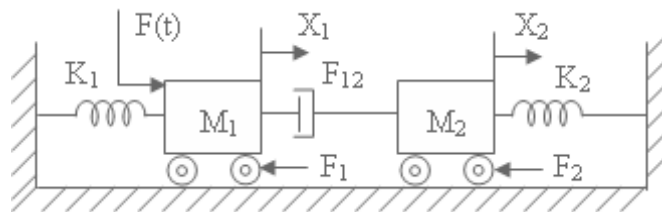

Figure 7:
- For the mechanical system shown in figure 7 derive an expression for the transfer function  $\frac{X_2(s)}{F(s)}$ . [8+8]